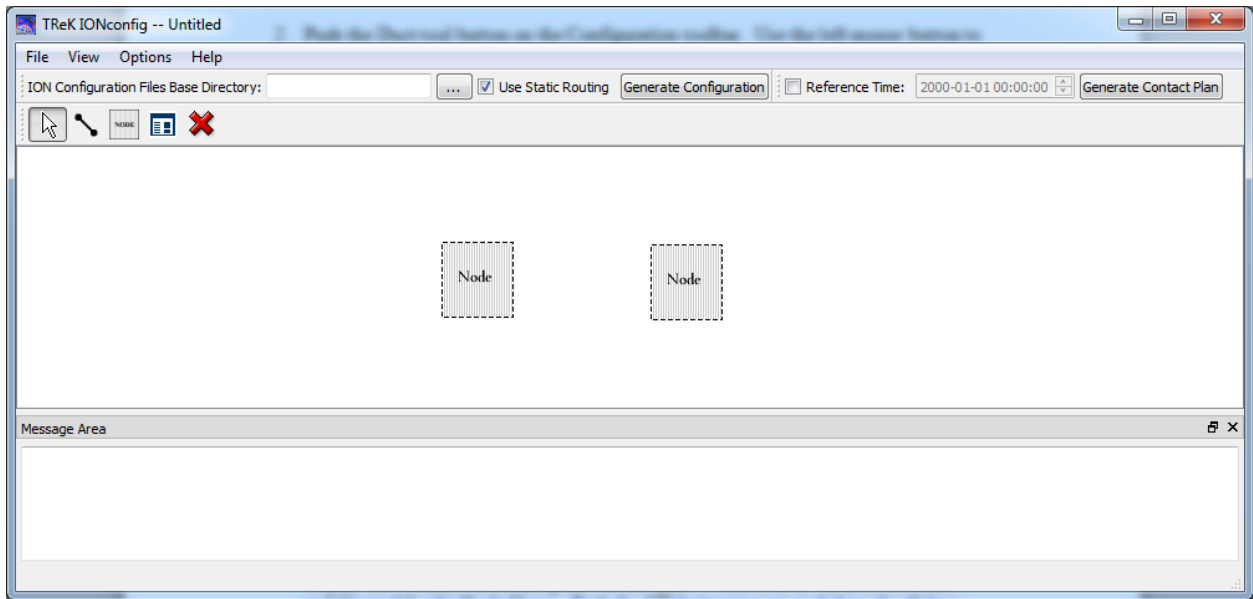

Figure 7 Two Nodes
1. Push the Node tool button on the Drawing toolbar. Use the left mouse button to place two nodes in the diagram as shown in Figure 7.